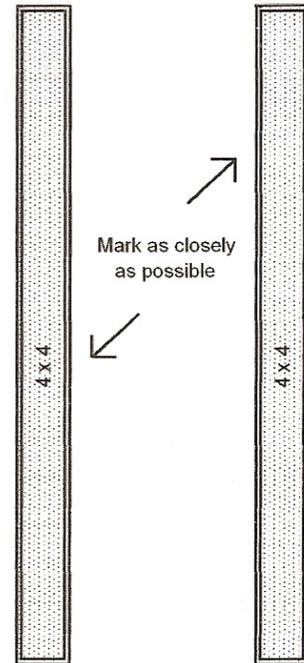

Figure 4
STEP 4: From the bottom of the attached 2x4 measure 36" down both 4x4's and make marks. Place another 24" 2x4 at these marks and check that it is square to the 4x4's and secure with two 3" deck screws on each end. (Figure 4).